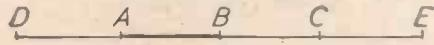

Fig. 1.—Showing how a two-dimensional square is obtained by folding up a one-dimensional line.
Imagine a line (which is a one-dimensional unit), AB (Fig. 1). If to this line we add at each end of it another line of equal length (BC and AD) and then one more line beyond it (CE), we obtain the figure DABCE. Now, this figure or line (which, theoretically, exists in one dimension, having length only) can, by folding, be converted into a clearly two-dimensional figure, to wit, a square, having length and breadth.